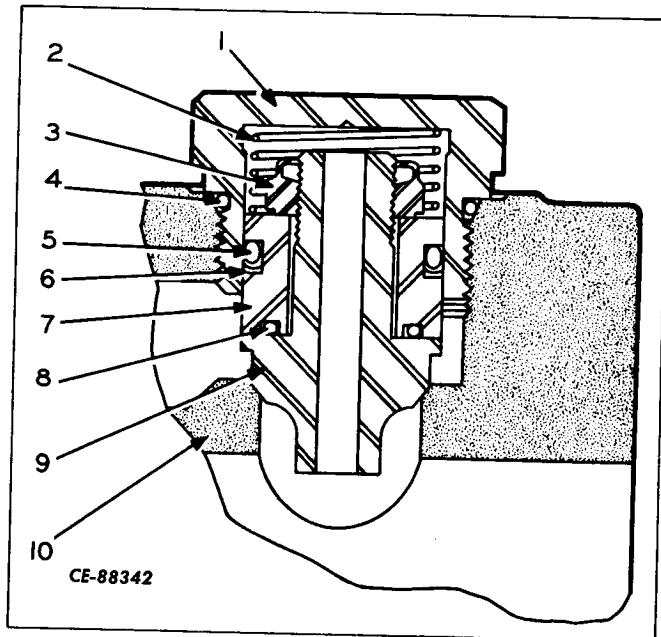

Figure 11-58
- a. Loosen and remove the plug (1, Fig. 11-58) from the main control valve body (10). Remove the "O"-ring (4) from the plug and discard.
- b. Remove the spring (2) and poppet assembly (3-7-9) from the valve bore.
- c. Hold the lower portion of the poppet (9) and remove the locknut (3). Remove and discard the "O"-ring (5-8) and back-up ring (6).